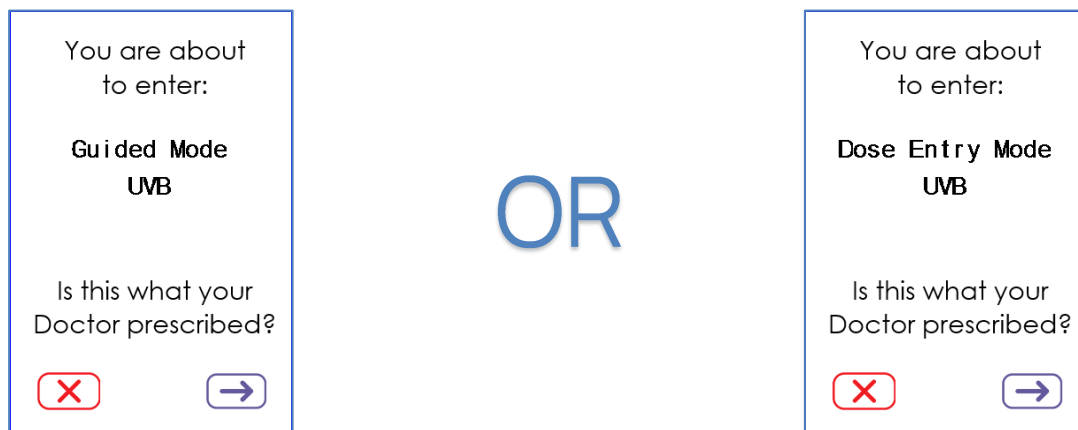

Figure 8 Operation Mode Confirmation screens
5. If the device has been activated, it will unlock to the Operation Mode screen (Guided Mode or Dose Entry Mode – see **Figure 8**), otherwise, see *section 8.3 Activating Device with Setup/Refill Codes*: